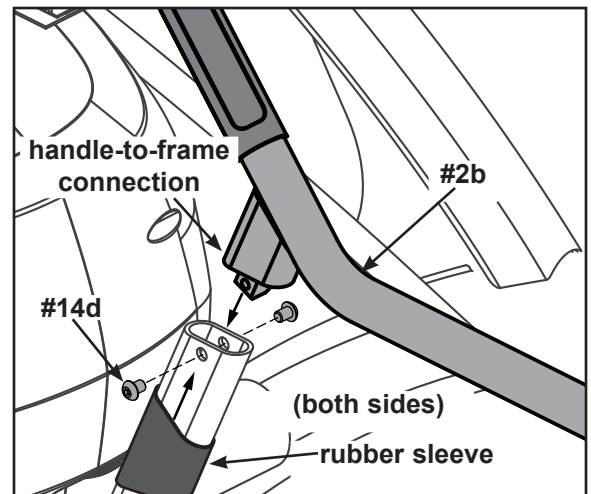

Figure 6 (750A)
- D. Apply loctite (#16) to and insert the four BHSCS .375-16 x .50 SS (#14d) as shown in Figure 6. Do not tighten at this point.
- F. Using a 7/32" Allen wrench, tighten the four BHCS (#14d) to secure the handle assembly. See Figure 6.